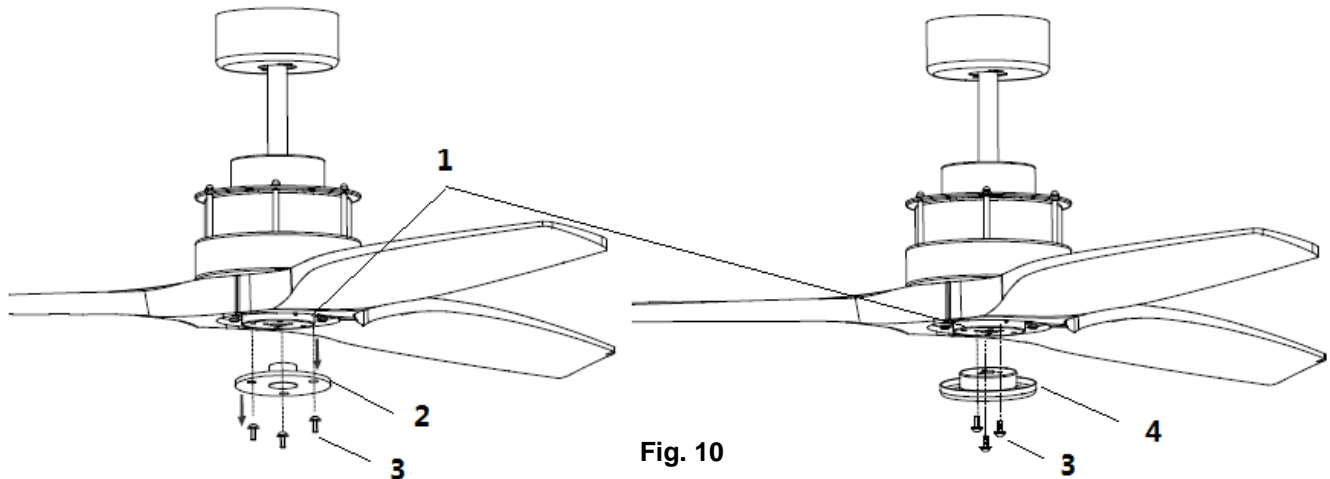

Fig. 10
- Remove the bottom cover adaptor (2) from the light kit housing (1) by loosening the 3 screws (3). Fig.10
- Install the light kit adaptor (4) to light kit housing (1) by using the 3 screws (3). Fig.10